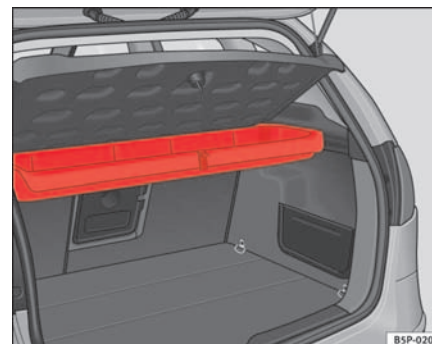
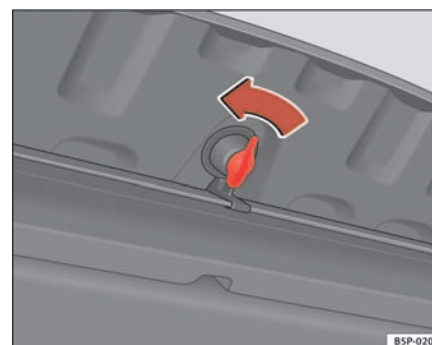

Fig. 118 Warning triangle storage under the rear cover
Fig. 119 Opening the storage compartment
The warning triangle* is located in a stowage box under the luggage compartment cover. ⇒ page 141, fig. 118. To open this storage compartment, turn the knob 90° fig. ⇒ page 141, fig. 119
- Open the storage compartment by turning the knob 90°. ⇒ page 141, fig. 119